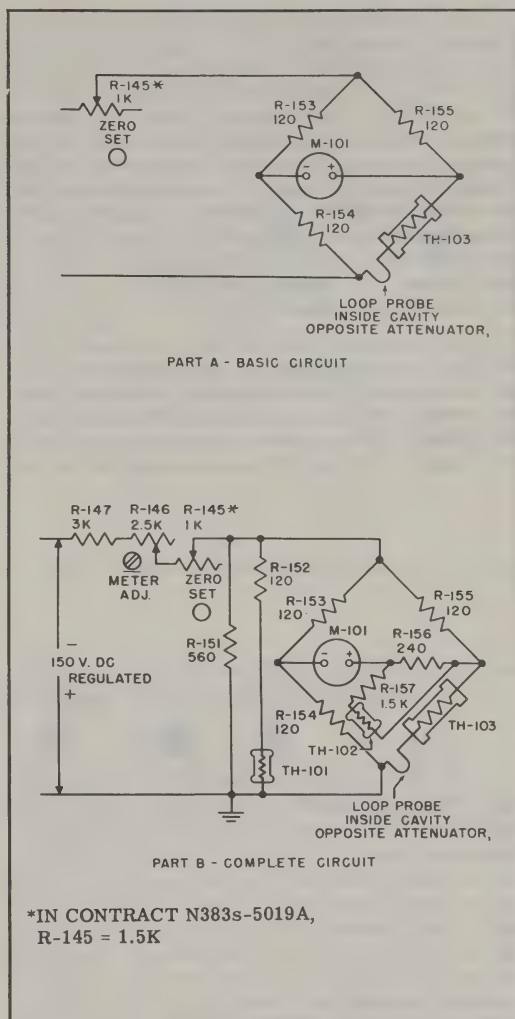

Figure 3-3. Signal Generator TS-419/U, Power Monitor Thermistor Bridge, Schematic Diagram
(1) GENERAL.—As stated in paragraph 4.a.(2), this section, the loop in tube Y-105 feeds power into the power monitor system. The power monitor system is a thermistor bridge circuit that includes the panel meter M-101, used in determining the output power level. Bead and disc thermistors are used in the signal generator. The bead thermistor TH-103 has a small mass and is used for power measurement. It is located in the cavity, and changes in its resistance can be caused by thermal changes in environment, by direct currents flowing through it, or by absorbed r-f power. The two disc thermistors TH-101 and TH-102 have a much larger mass. They are mounted outside the cavity and their resistance is dependent primarily on the ambient temperature.
(2) BASIC THERMISTOR BRIDGE CIRCUIT. (See figure 3-3.)—The basic thermistor bridge circuit is
shown in part A of figure 3-3. The bridge consists of R-153, R-154, R-155, and bead thermistor TH-103. Current will not flow in meter M-101 when the bridge is balanced. The bridge is balanced when the resistances meet the following conditions:
(3) COMPLETE THERMISTOR BRIDGE CIRCUIT. (See figure 3-3.)